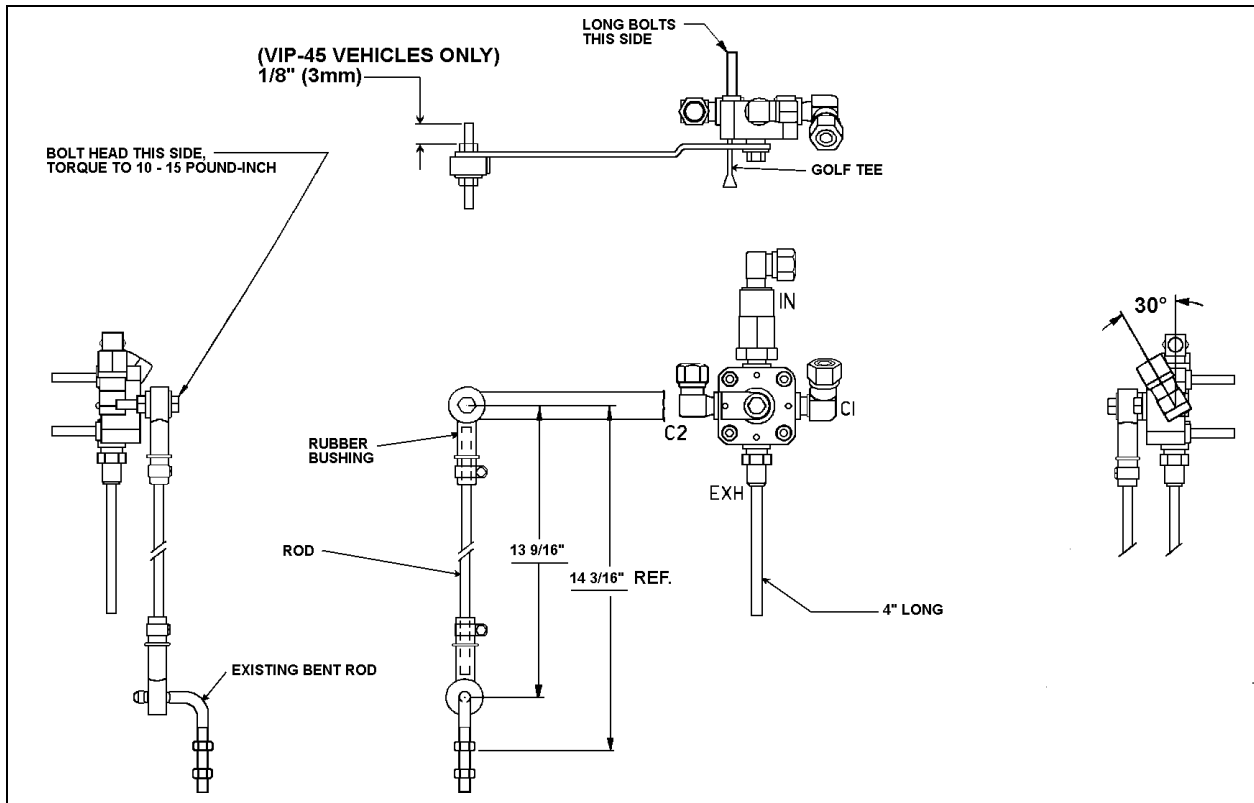

FIGURE 2: INSTALLATION OF BARKSDALE FRONT HEIGHT CONTROL VALVE
6. Dismantle the valve, discard Neway valve but retain the couplings. Remove the restrictions from inside the couplings, discard restrictions. Clean the couplings and apply Teflon sealant paste over the threads. Install a check valve (Prévost #640135) on the inlet coupling of the valve. Do not use a vise to secure the valve body when reinstalling the couplings, mount nuts on the studs and clamp the nuts in the vise. Avoid overtorquing couplings, handtighten only then rotate $1\frac{1}{2}$ turn then position coupling to the required angle. Turn valve lever three times in each direction to settle it. Install coupling (Prévost #631332) with the flexible hose (Prévost #503402) on the exhaust port and connect the air springs lines to couplings C1 and C2. (refer to fig. 2).
9. Install rubber bushing (Prévost #630133) on the existing bent rod, insert new rod (Prévost #131308) in the rubber bushing then install second rubber bushing (Prévost #630117) on the rod. Secure using clamps (Prévost #504014) as shown on fig.2.